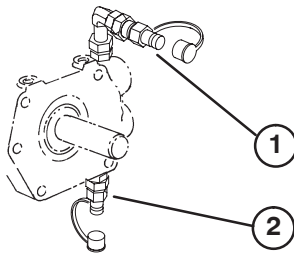

Figure 43
The test ports (Fig. 43 & 44) are used to test the hydraulic circuits. Check all pressures when engine is at full speed and hydraulic oil is at normal operating temperature. Contact your local Toro distributor for assistance.
1. Traction Forward and Reverse (Fig. 43) (behind wheel motors) has a normal relief setting of approximately 5300 psi and 50 – 150 psi charge pressure. Use a gauge with 7500 – 10,000 psi full scale rating.